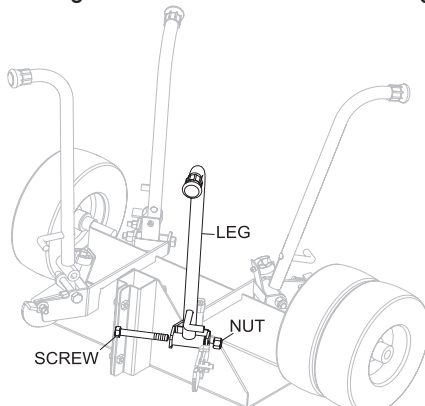

Figure 13. Stand Legs Installation
1. Attach the 4 legs of the stand as shown in Figure 13.